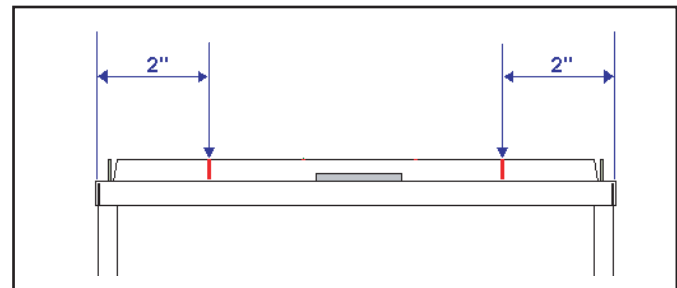

Figure 17 Duct Flanges
**NOTE:** Cut the front duct flange 2" from each side and fold flat to clear the Power Door latches. Some applications may require a transition for piping clearances. See Figure 17.